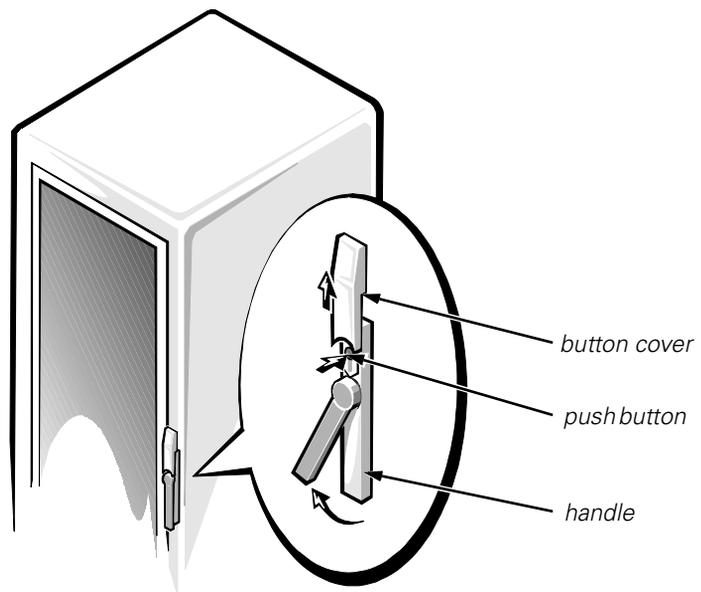

Figure 2. Opening the Latch on the Door
- 1. Open the latch on the front door (see Figure 2).**